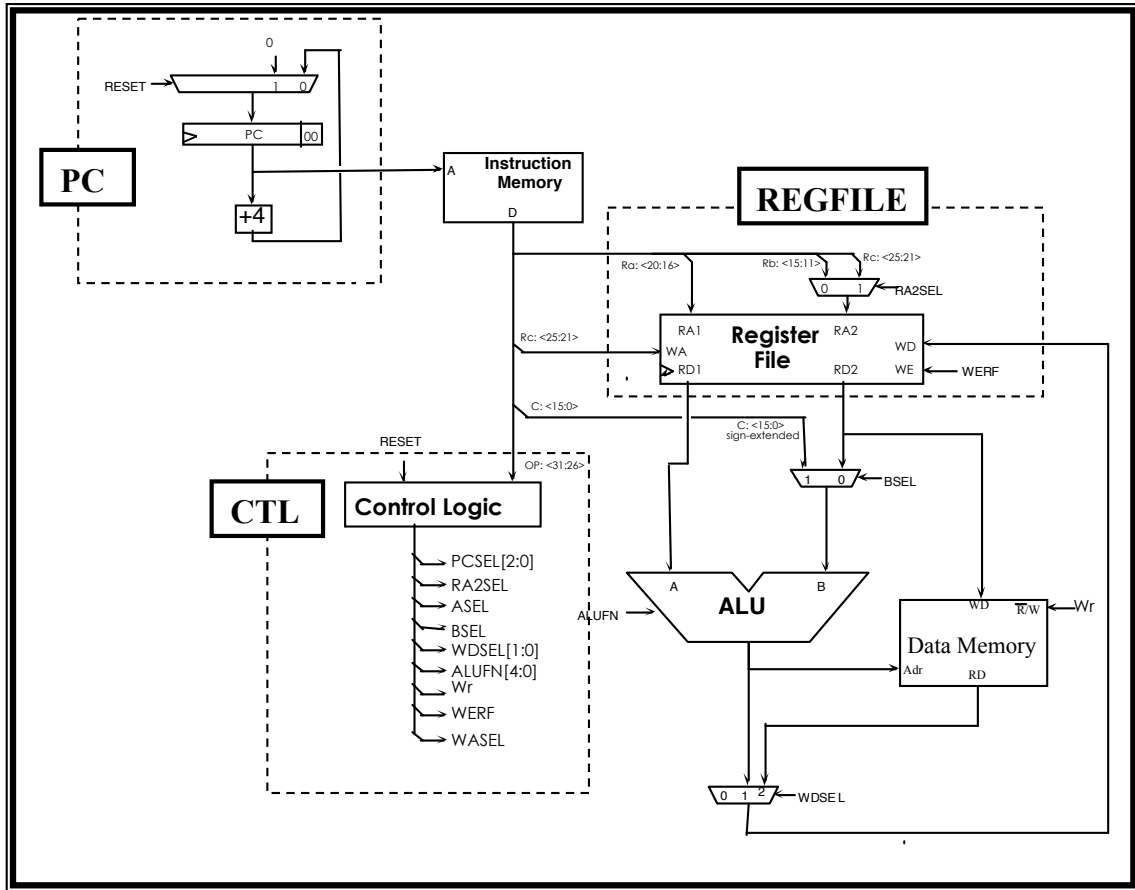

Figure 1: Basic Beta Processor
Our basic design will look like Figure 1.
2. Review the instruction formats for the Beta and Figure 1. Determine the differences between the Beta and our standard MIPS processor. In a new section in your Word document, describe them in a paragraph.
You need to be especially careful in designing your write enable for main memory. When the system is reset, WR should be 0 (memory writes should not be enabled). In addition to this, you need to define MOE (memory output enable), which will go high on memory reads. Figure 1 outlines all other control signals needed.